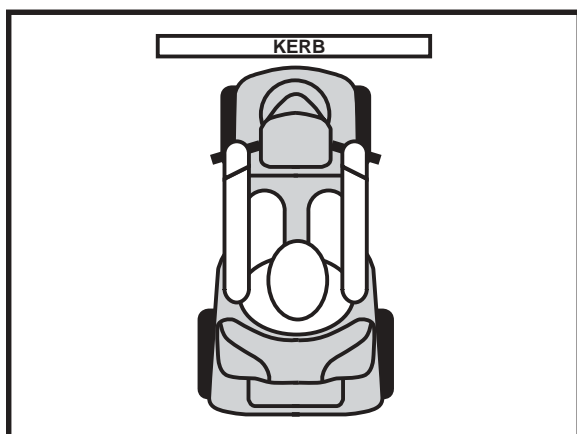

Figure 3. Correct Kerb Approach
**WARNING!** Be sure your scooter is traveling perpendicular to any kerb you may be required to ascend or descend. See figures 3 and 3A.